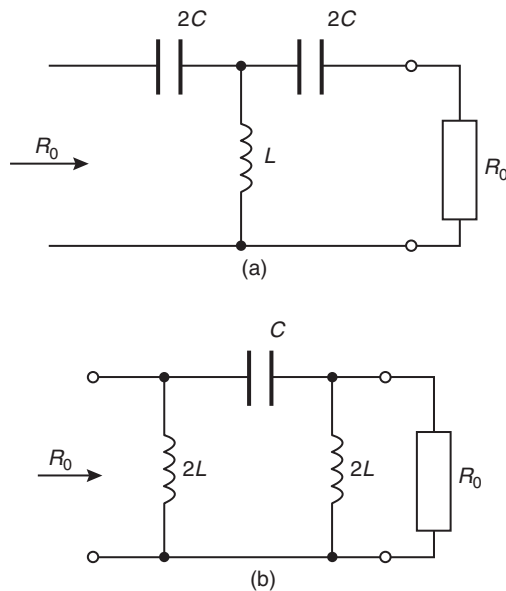
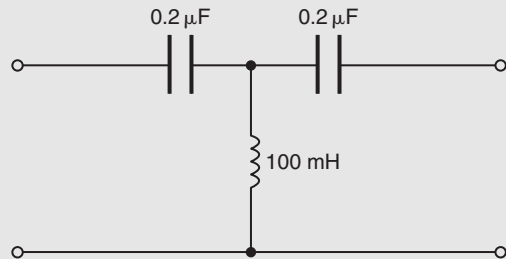
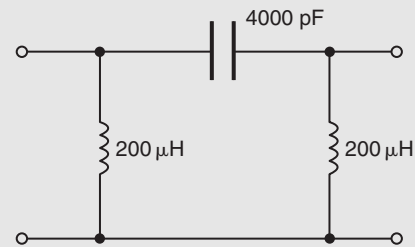
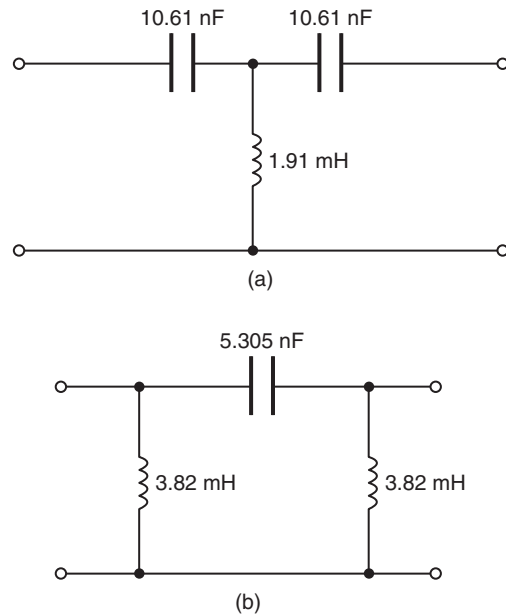

Figure 17.16
Figure 17.17
Figure 17.18
Figure 17.19
A high-pass symmetrical T-network and a high-pass symmetrical  $\pi$ -network are shown in Fig. 17.16. It may be shown that the cut-off frequency,  $f_c$ , for each section is the same, and is given by:
**Problem 4.** Determine the cut-off frequency and the nominal impedance for the high-pass T-connected section shown in Fig. 17.17.
Comparing Fig. 17.17 with the high-pass section of Fig. 17.16(a), shows that:
**Problem 5.** Determine the cut-off frequency and the nominal impedance for the high-pass  $\pi$ -connected section shown in Fig. 17.18.
Comparing Fig. 17.18 with the high-pass section of Fig. 17.16(b) shows that:
- (a) A high-pass T-section filter is shown in Fig. 17.19(a), where the series arm capacitances are each  $2C$  (see Fig. 17.16(a)), i.e.  $2 \times 5.305 = 10.61 \text{ nF}$
- (b) A high-pass  $\pi$ -section filter is shown in Fig. 17.19(b), where the shunt arm inductances are each  $2L$  (see Fig. 17.6(b)), i.e.  $2 \times 1.91 = 3.82 \text{ mH}$
Thus, from Fig. 17.16(a), the series arm capacitances are each  $2C$ ,